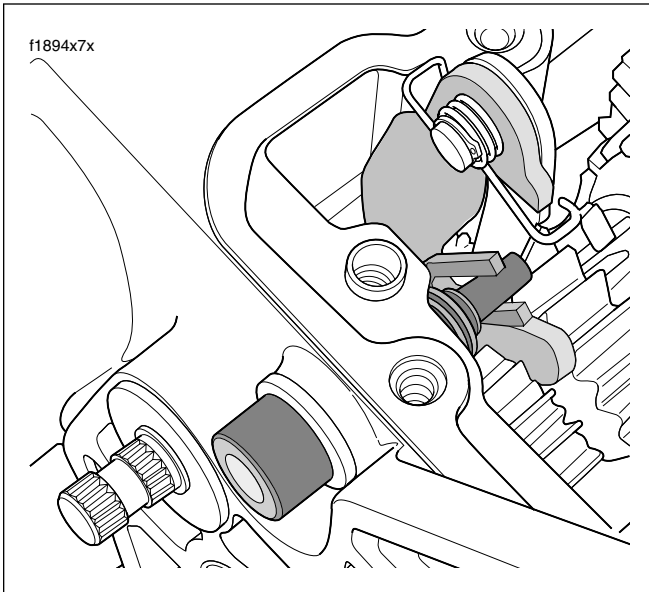

Figure 7-53. Shifter Pawl Assembly
6. Slide splined end of shift shaft through sleeved bore until it protrudes from left side of transmission case. Install flat washer and retaining ring on splined end of shift shaft. Hold the shifter pawl assembly inside the transmission case so that the centering spring slot is aligned with the centering screw. Using a T50 TORX drive head, tighten centering screw until snug. See Figure 7-53.